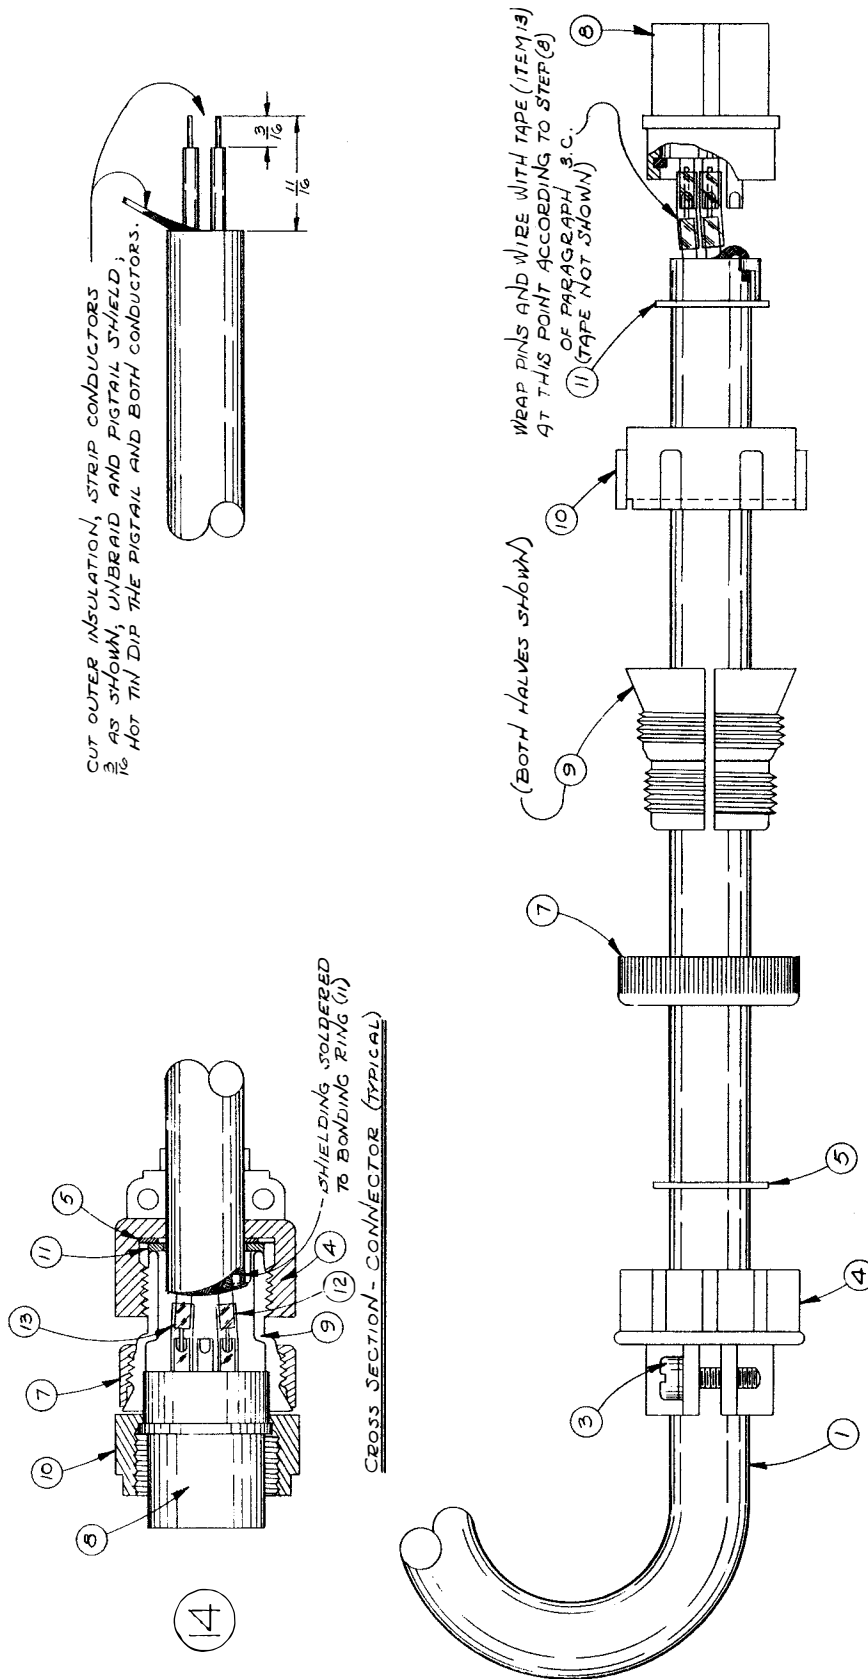

Figure 3-2. Installation of Connectors on MCOS-2 Cable
Attach the plugs to the cables for the external circuits according to the instructions of paragraphs 3.c., 3.d. and 3.e. as illustrated in figures 3-2, 3-3 and 3-4.
The external MCOS-2 cables are to be prepared and terminated with their plugs as follows and as illustrated in figure 3-2:
(4) Remove the insulation from the two conductors one-quarter of an inch from the end and tin. Place a five-eighths inch piece of #10 clear vinylite tubing (item 12) over each conductor.
(5) See table 3-1 and select the correct plug for the circuit to be connected, and select an AN3057-6 cable clamp (H1101).
(6) Disassemble the plug, pull the washer out of the cable clamp, and loosen the cable clamp screws. Slip the following items over the cable in the order shown in figure 3-2: item 4—cable clamp, 5—fiber washer, 7—shell assembly nut, 10—coupling nut, and 11—soldering ring.
(7) Solder the cable leads (black and white) to the corresponding pin numbers as given in table 3-1, and solder the pigtailed braid to the lug on the soldering ring, item 11 (O1101).
(8) Slip the vinylite tubing over the soldered connections and wrap the connections with adhesive plastic
tape, indicated as item 13, but not shown, in figure 3-2.
(9) Assemble the plug as shown in figure 3-2, item 14.
(10) Tighten the shell assembly nut securely and screw the cable clamp tightly onto the shell.
(11) Tighten the clamping screws, item 3, so that the cable clamp has a firm grip on the cable.
For single receiver operation, interconnect the Frequency Shift Converter CV-89A/URA-8A according to figure 3-5. To complete the connections it is necessary to attach plugs to the external cables. The procedures for attaching these plugs are given in paragraphs 3.c., 3.d. and 3.e. and are illustrated in figures 3-2, 3-3 and 3-4. See paragraph 3.b.(1) of this section for the line voltage setting to be made in the Converter unit, and set the PARALLEL-OPEN links on terminal board E102 according to the instructions in paragraph 3.b.(2).